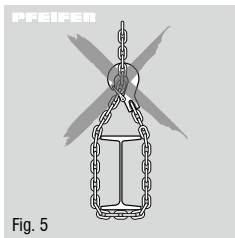

Fig. 5
- The load chain must not be used as chain sling (Fig. 5).